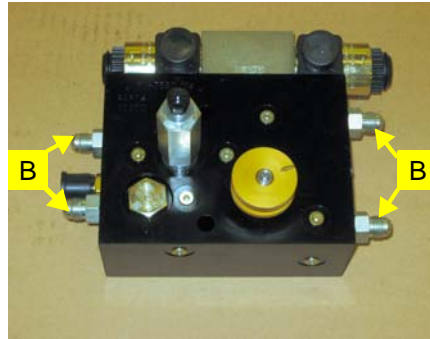

Figure 1: Prepared Automated Steering Block
- a. Make Sure the Automated Steering Block (A) is clean and dust free.
- b. Install adapter fitting (B) in the A, B, P and T ports of the Automated Steering Block. (Figure 1)